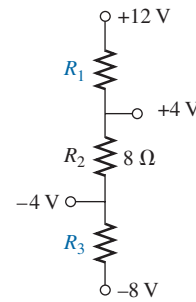

FIG. 5.122
39. Given the information appearing in Fig. 5.122, find the level of resistance for R_1 and R_3 .